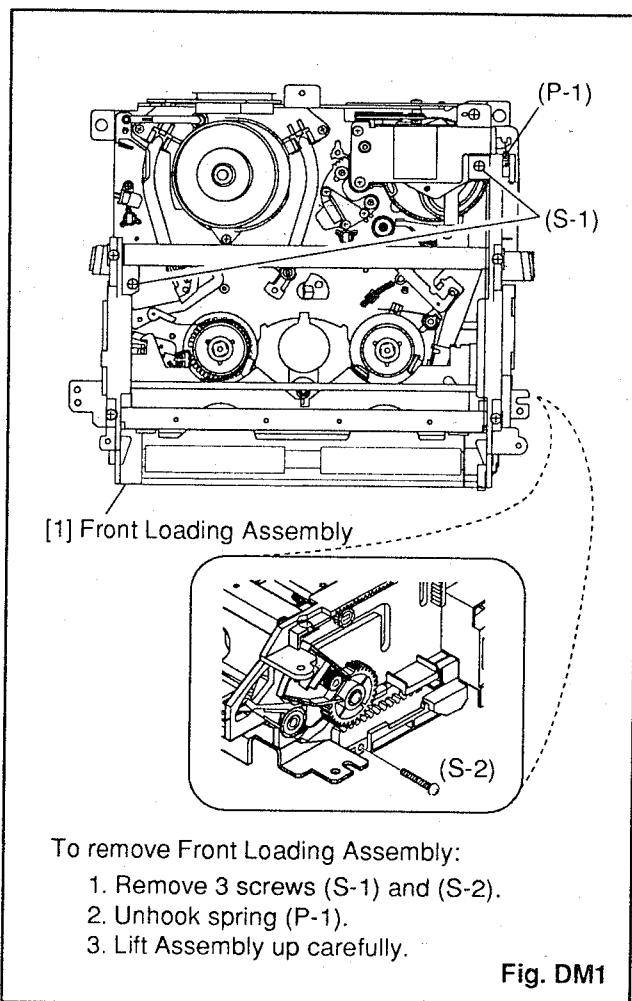

Fig. DM1
2. Remove Front Loading Assembly from the main mechanism of the deck assembly. (See Fig. DM1.)
Before following the procedures described below, be sure to remove Front Loading Assembly from the main mechanism of the deck assembly. (See Fig. DM1.) When reassembling, start with the unit in Cassette-in mode and follow the steps in reverse order.